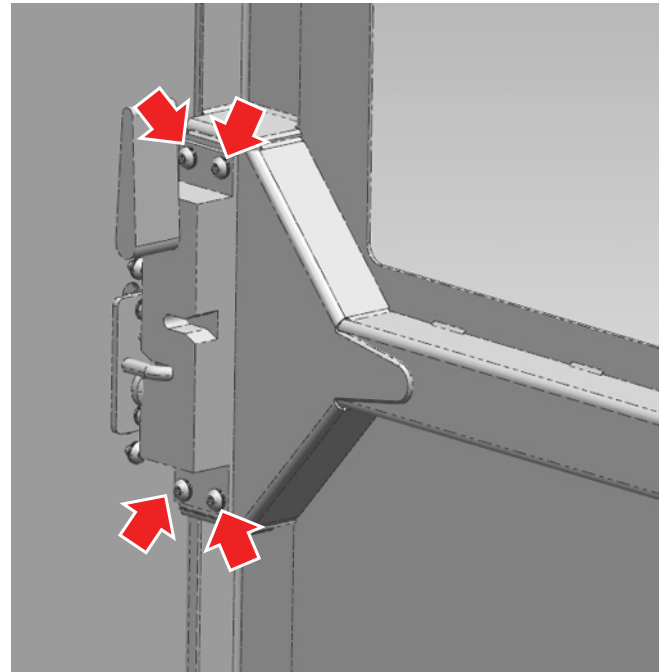

Figure 1
3. From inside the cab, locate the door handle latch, remove the bolts indicated and the door handle latch, and set aside for reinstallation (see Figure 1).
9. Reinstall the cab door handle latch and bolts that was set aside in step 3 and tighten the fasteners to 75 lbs/in of torque (see Figure 1).